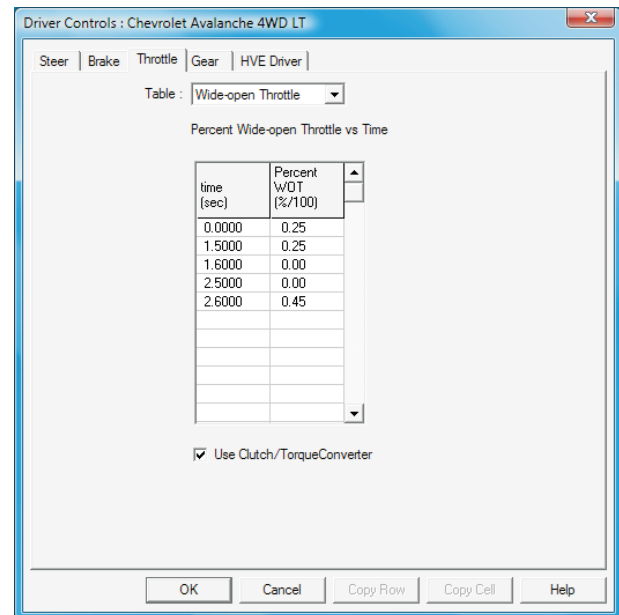

Figure 3 - Throttle table
closed throttle (CT). 1.0 represents full throttle (WOT). A typical throttle table is shown in Figure 3.
Clutch/Torque Converter – This is a checkbox that tells the Drivetrain Model to simulate a clutch (manual transmission) or torque converter (automatic transmission) when starting from a low speed in first or reverse gear, also shown in Figure 3.